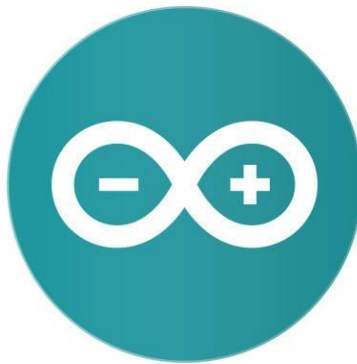

Figure 4.1 Arduino IDE Logo
- The Figure 4.1 shows the desktop logo for the Arduino IDE